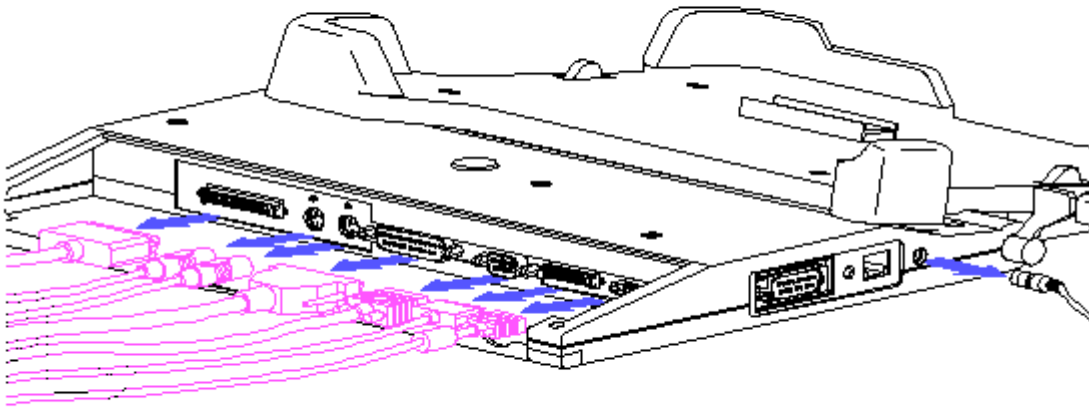

Figure 4-1. FlexConnect Connectors and Power Button
3. Disconnect all external equipment (Figure 4-1).